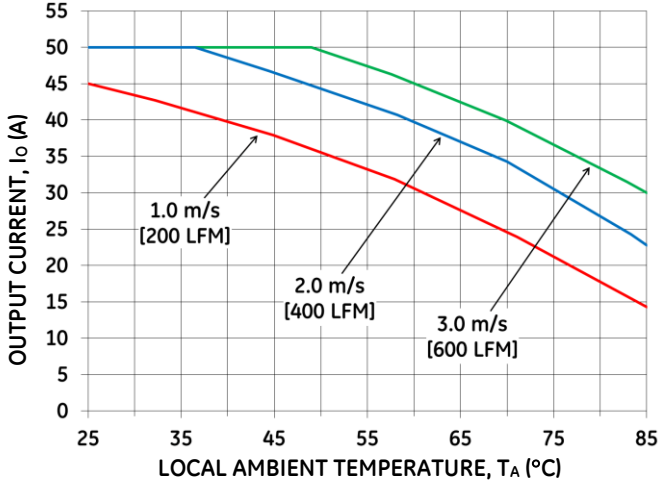

Figure 18. Output Current Derating for the Base Plate QSD(V)W050A0B-H with Transverse Airflow from Vin(-) to Vin(+); Vin=48V.
Increased airflow over the module enhances the heat transfer via convection. The thermal derating of figure 18- 23 shows the maximum output current that can be delivered by each module in the indicated orientation versus local ambient temperature (TA) for three local air speeds.
The use of Figure 18 is shown in the following example:
Determine required airflow velocity (Use Figure 18):